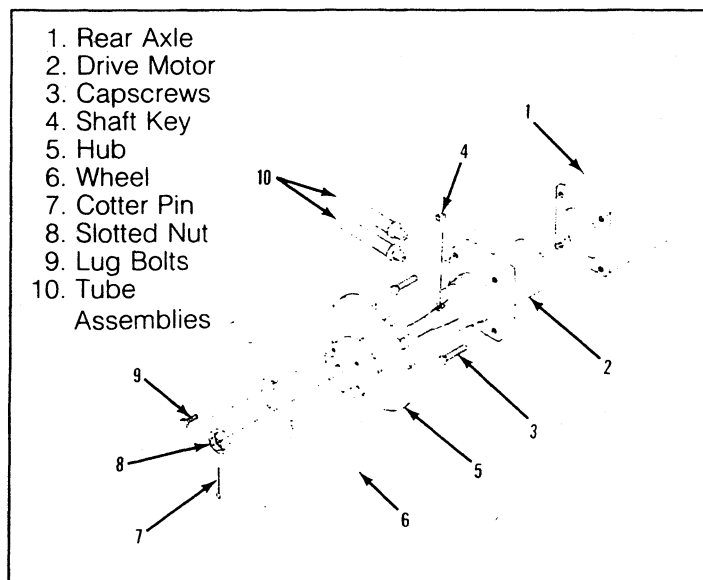

Figure 5-10. Drive Motor Removal
5-19. HYDRAULIC DRIVE MOTORS AND HUBS (Figure 5-10).
- (1) Back up rear axle and block the wheels to prevent the work platform from rolling when the brake is removed.
- (2) Disconnect motor tube assemblies (10, Figure 5-10) and plug.
- (3) Remove the capscrews (3, Figure 5-10) and remove motor, hub and wheel assembly as a unit from rear axle.
- (4) Disconnect the tube assemblies (1, 17) and cap the openings to prevent foreign material from entering.
- (5) Remove the capscrews (2), flatwasher (3) and locknuts (11) to remove the cylinder (4) from the rear axle.
- (1) Install the piston seal (13) on the piston (12) then assemble the static seal (14), shaft (11) and piston (12).
- (2) Position the spring (15) and stop tube (16) on the shaft assembly.
- (3) Lubricate the piston seal (13) with clean hydraulic fluid, then install the shaft assembly in the cylinder barrel (4).
- (4) Lubricate the seals (7, 8) with clean hydraulic fluid and install on the head cap (6).
- (5) Install the shaft seal (10) and wiper (9) within the head cap (6).
- (6) Lubricate entire assembly's seals (7, 8) and the shaft seal and wiper (10, 9) with clean hydraulic fluid then install the head cap (6) onto the shaft (11) and into the cylinder barrel (4).
- (7) Secure with snap ring (5).
- (8) Position the brake cylinder assembly on the rear axle so that the shaft (11) will fully engages the brake disc, however the shaft must clear the brake disc once retracted. Secure with capscrews (2), flatwashers (3) and locknuts (18).
- (9) Connect the tube assemblies (1,17).
- (10) Place wheel hub and motor assembly in axle and attach with capscrews (3, Figure 5-10).
- (11) Connect motor tube assemblies (10, Figure 5-10).
- (12) Operate the brake retract circuit and check that the shaft clears the brake disc. Check for leaks.